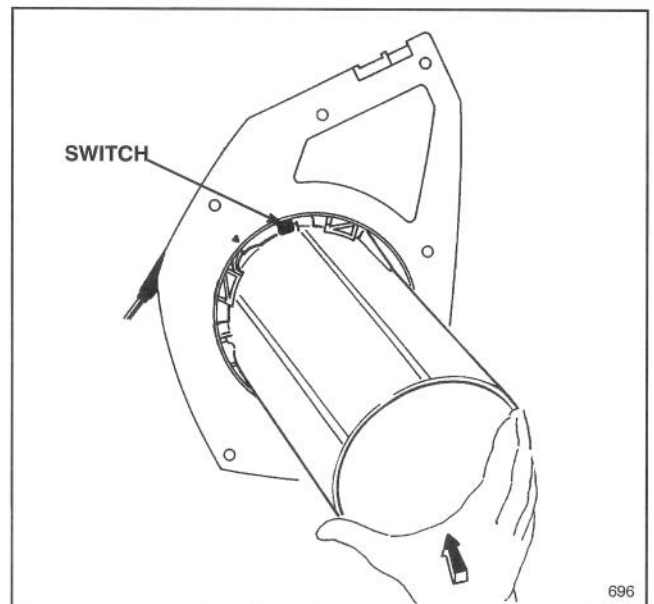

Figure 7
5. Insert tube into slotted ring in blower (Fig. 7).